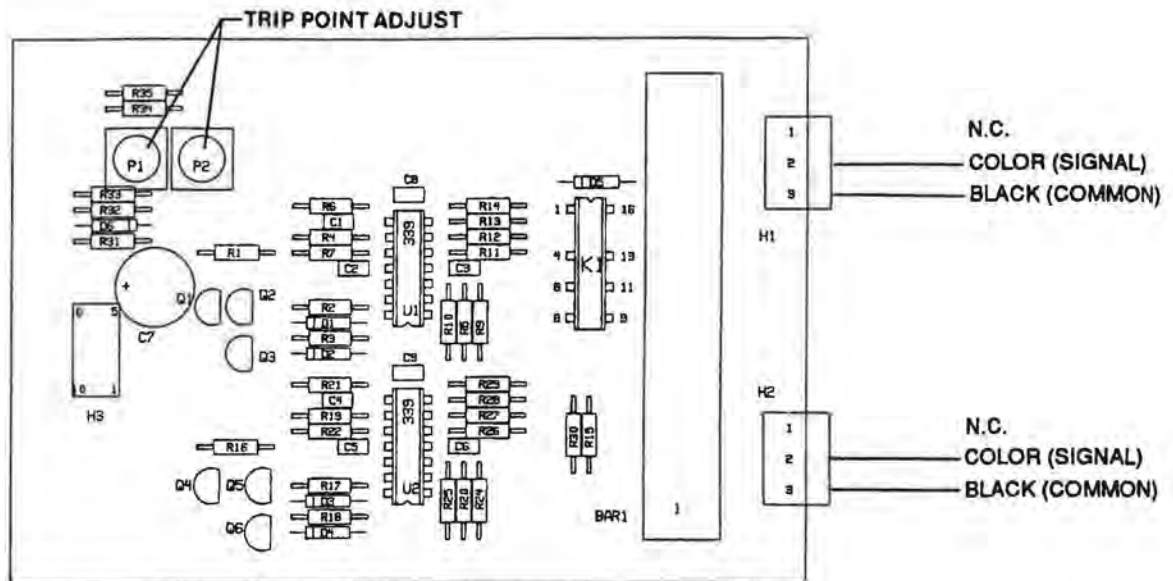

FIGURE 7: STANDARD VAPOR SENSOR INTERFACE BOARD P/N Q-439924
3.3.10.1 STANDARD VAPOR CIRCUIT (Refer to Figure 7)